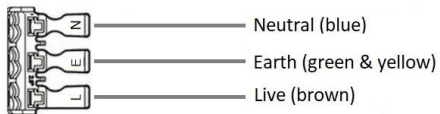

Fig. 3
- Connect the luminaire to the mains supply ensuring the correct polarity is observed (see Fig. 3):